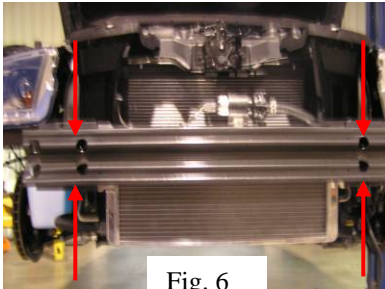

Fig. 6
- 18) Using a 13mm deep well socket, remove the two bolts closest to center on each side, that attach the front bumper to the frame (Fig. 6).